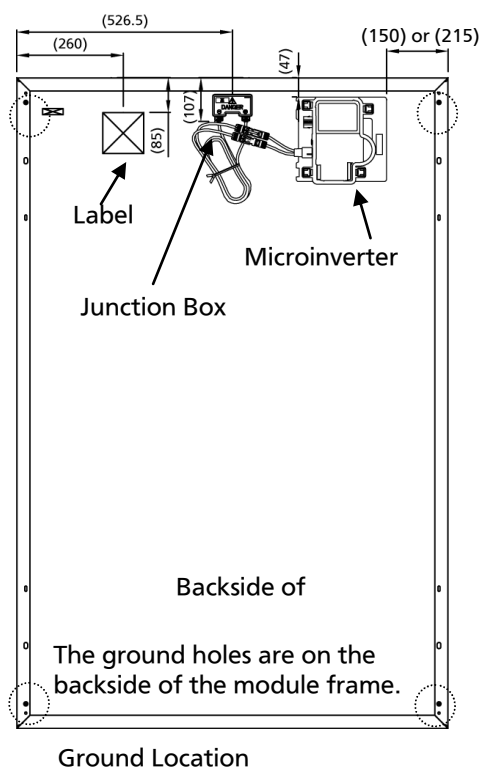

Figure 16-1.
- Each ledge on the module frame has two larger holes for bolts (0.205" diameter (5.2 mm)). These ground holes are marked with "earth indication mark" adjacent to their location on the frame rail (see Figure 16-1.).
Note: Use the ground holes illustrated in Figure 16-1.
Note: Use the ground holes illustrated in Figure 16.1.